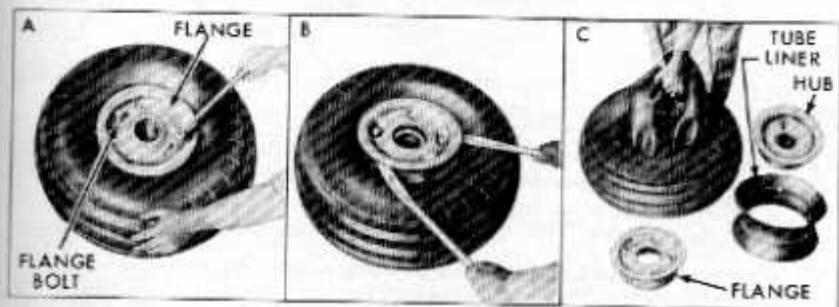

Figure 47
**Tire Removal—Single Front Wheel:** Jack the tractor up sufficiently to free the front wheel. Remove the dust cap, cotter pin, castellated nut and flat washer from the wheel spindle. Remove the wheel and deflate the inner tube completely. Remove the five flange bolts and insert two of these bolts in the opposed thread holes of the flange as shown in "A" Figure 47. Turn the bolts in to break the flange from the hub. Use tire irons to remove the flange from the tire (See "B" Figure 47). Lift the tire off of the hub and remove the tube liner and tube (See "C" Figure 47). Remove the two flange bolts from the flange.